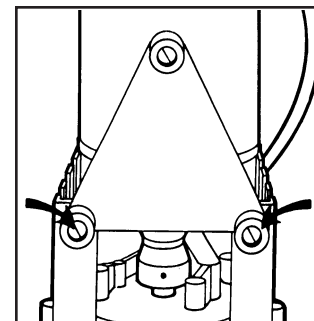

FIG. 1
1. Stand pump on oil cover. If pumps has foot mounting bracket, remove unit by loosening foot screws. (FIG. 1)